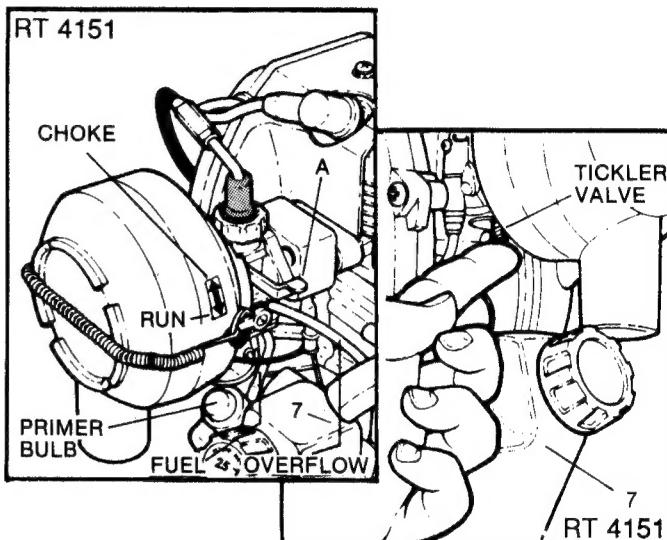

FIG. 3 - PRIMING THE ENGINE ON RT 4151
On the RT 4151, pump the primer bulb on FUEL TANK (7) while holding the tickler valve in until fuel starts flowing through overflow tube as shown in FIG. 3. Priming is not required with a warm engine. NOTE: Failure to hold tickler valve in while priming will flood the engine.
2. Move the CHOKE LEVER (A) to the CHOKE position on cold engines. Place your foot on the wheel to secure unit while pulling the starter rope. Pull the starter handle with the right hand using full strokes until the engine starts to run.
3. After the engine has warmed up for approximately 5 seconds, move the choke lever (A) down to the RUN position.